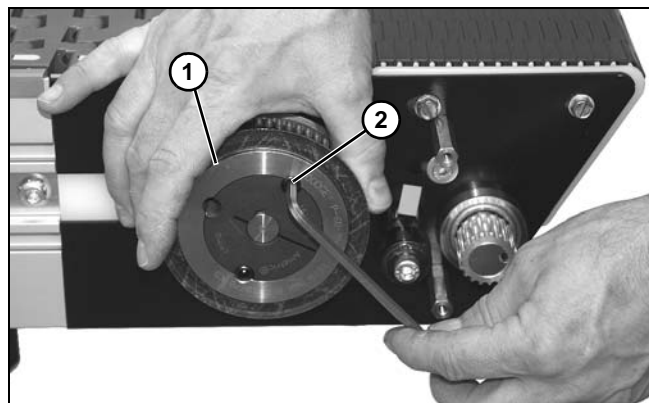

Figure 147
16. While holding onto pulley (**Figure 147, item 1**), install set screw (**Figure 147, item 2**) on pulley.